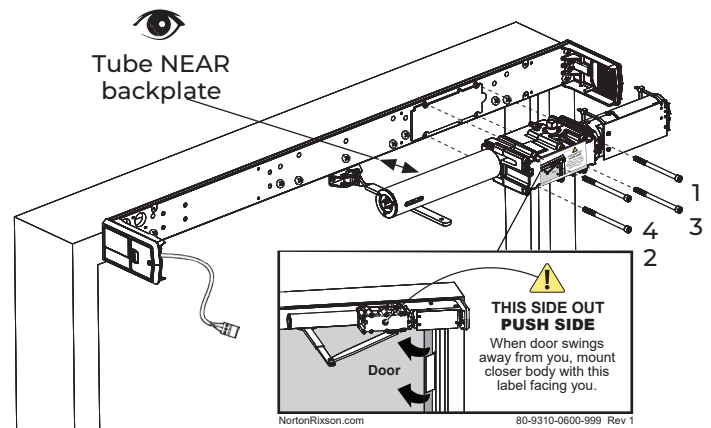

Fig. 9
1. Using the four (4) screws provided, install the operator body to the backplate. (Fig. 9)
- Screws must be tightened in a cross pattern until all four (4) screws are tight. (Fig. 9)
- "This side out PUSH SIDE" label is facing away from the backplate. (Fig. 9)